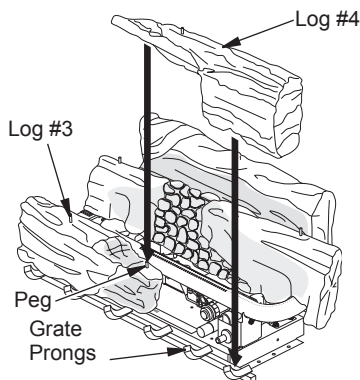

Figure 23 - Placement of Front Logs (Log #3 and Log #4)
3. Place left front log (log #3) on grate prongs as shown in Figure 23.
4. Place right front log (log #4) on peg of log #3 and grate prongs as shown in Figure 23, page 16.